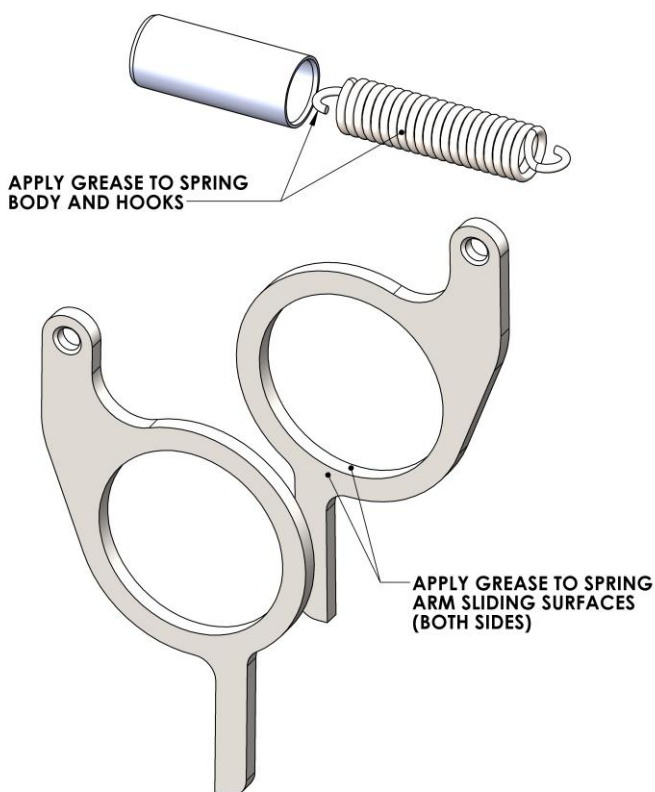

Figure 26: Apply grease to spring arm sliding surfaces, spring body, and spring hooks
27. Prepare the new spring for use. Apply a light coat of grease to spring body and spring arm retention holes as shown in Figure 26.
28. Apply a light coat of grease to the sliding surfaces and bores of the spring arms as shown in Figure 26.